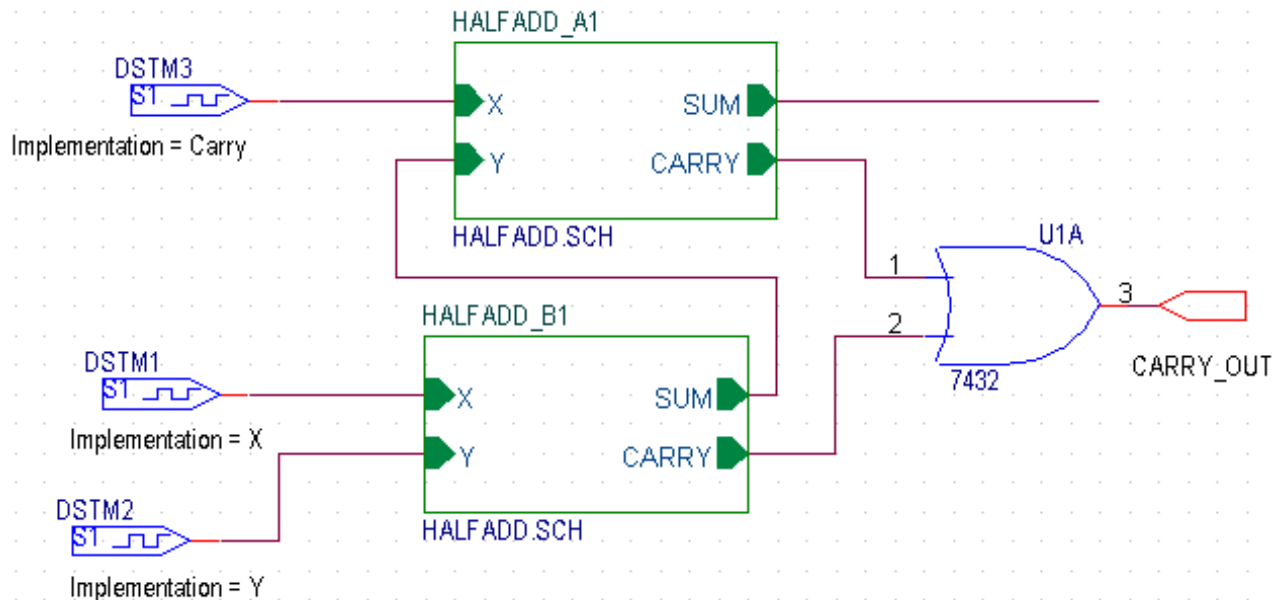

Figure 2-2 The full adder circuit
- 16 Using the Place Part dialog box, add an OR gate (7432) to the schematic. (See Figure 2-2 on page 26.)
- 24** Specify the value of the Implementation property as Carry, X, and Y, respectively. See Figure 2-2 on page 26.
- 25** Select the Place Port  button, to add an output port, CARRY_OUT, to the output of the OR gate. (See Figure 2-2 on page 26.)
- 28 Place the output port as shown in the Figure 2-2 on page 26.